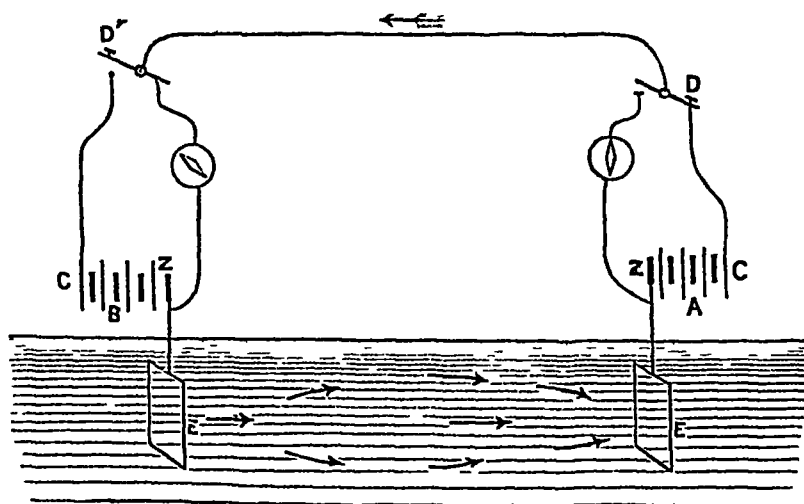

FIG 227
It was soon found, that the return wire was unnecessary, the earth being a sufficiently good conductor for the return current , thus the wire between *cu* and *c* might be removed, the ends being inserted in the earth (See also fig 227 )
**A Telegraph circuit**—At each station (fig. 227), the zinc of the battery is connected with the galvanometer and also with